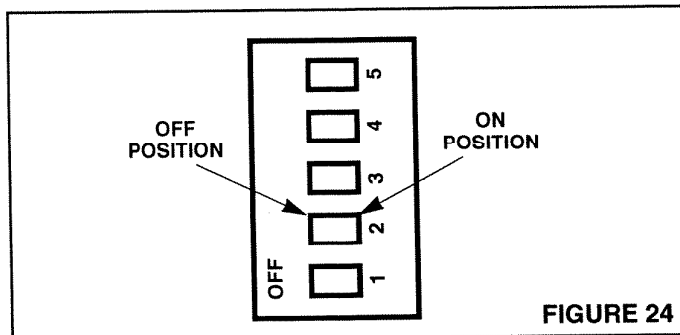

FIGURE 24
1. Refer to Figure 24. Locate the Selector Switch on the back of the remote control unit.